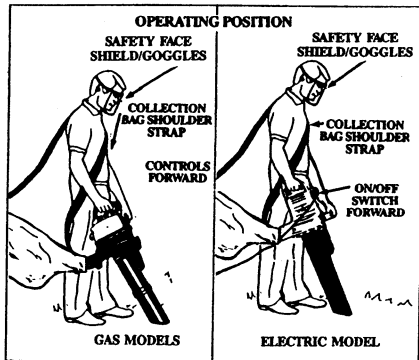

Figure 22
8. Use the correct operating position. (Figure 22) Do not over-reach or use from unstable surfaces such as ladders, trees, steep slopes, roof tops, etc. Keep firm footing and balance at all times.